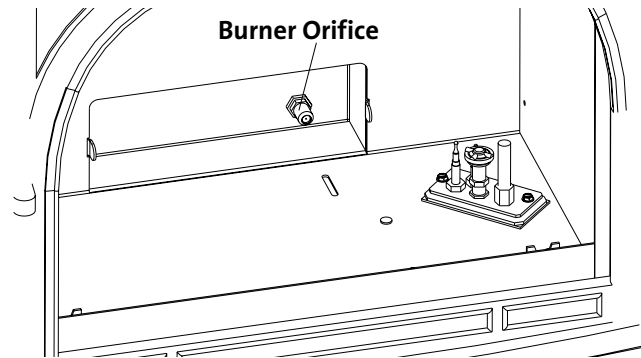

Figure 14. Change the Burner Orifice.
8. Change the Burner Orifice. See fig. 14. Using a 1/2" open ended wrench or deep-well socket, remove the burner orifice from its brass elbow housing and replace with the appropriate orifice supplied in the kit.